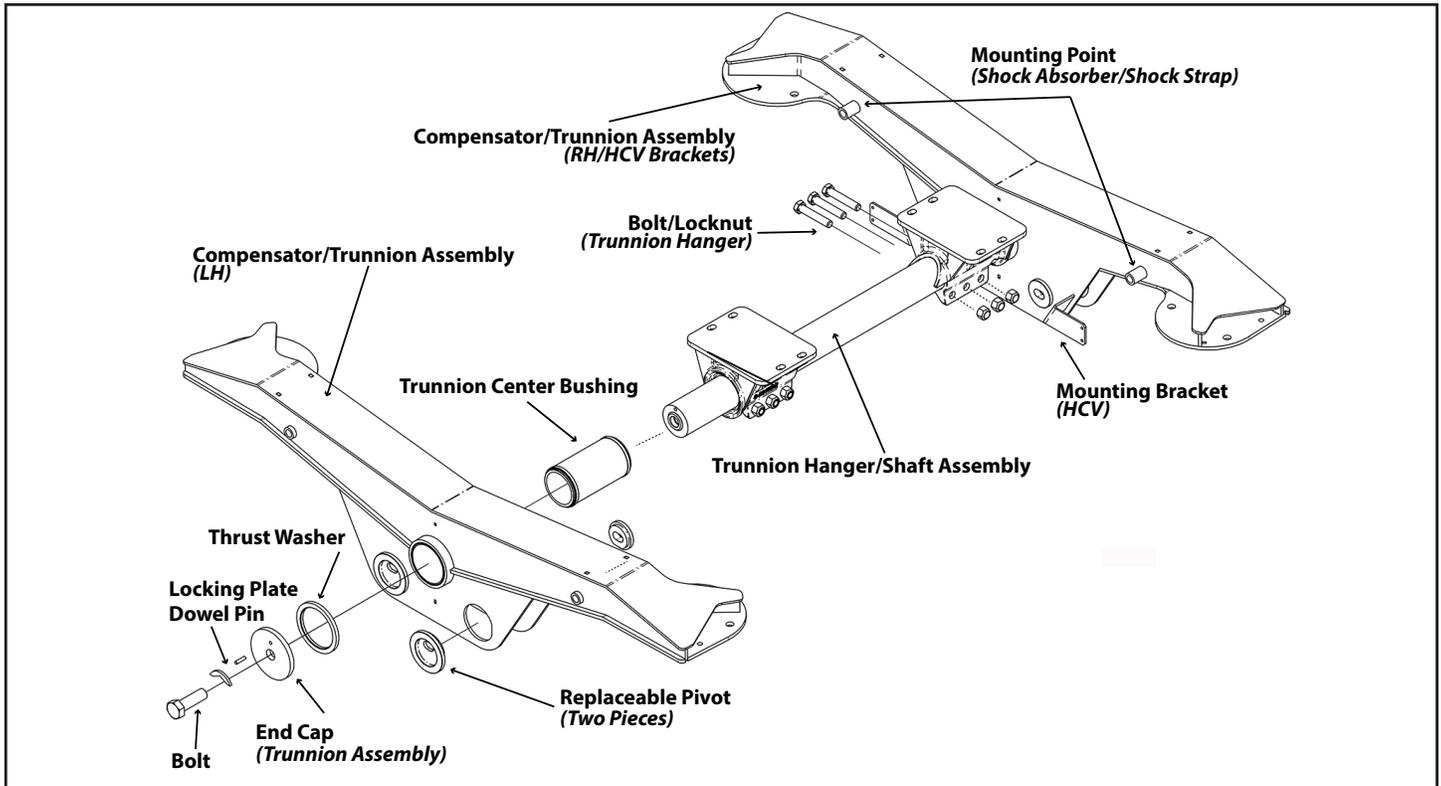

Figure 2. RAR-254 (Narrow Bushing) Compensator/Trunnion Assembly Components
4. Grind off the weld on the locking plate over the trunnion shaft bolt. Remove the locking plate, dowel pin, trunnion shaft bolt, end cap and thrust washer (Fig. 2). NOTE: Dowel pin required for reassembly.